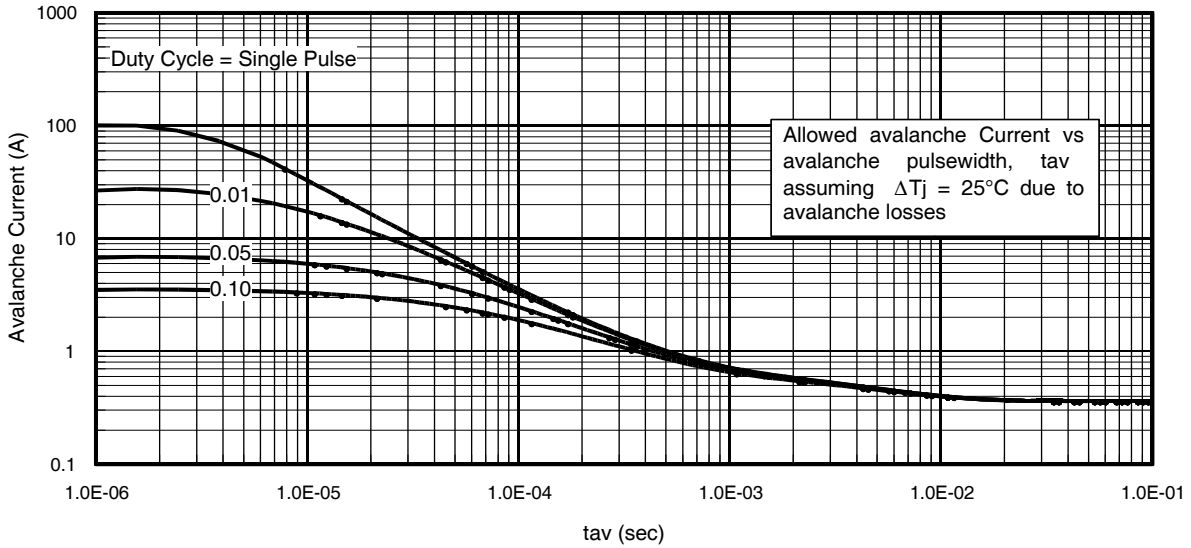

Fig 15. Typical Avalanche Current vs. Pulsewidth
Notes on Repetitive Avalanche Curves , Figures 15, 16: (For further info, see AN-1005 at www.irf.com)
7. ΔT = Allowable rise in junction temperature, not to exceed T_{jmax} (assumed as 25°C in Figure 15, 16).